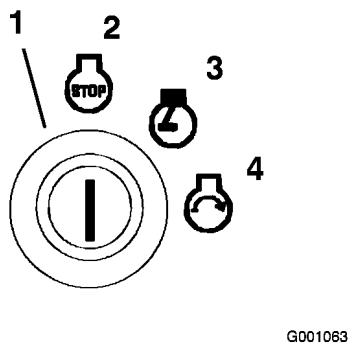

Figure 13
6. Turn the ignition key clockwise to the run position (Figure 13). The glow plug light will turn on.
2. Turn the ignition key clockwise to the **run** position (Figure 13). The glow plug light will turn on.
4. Turn the ignition key to the **off** position (Figure 13). Wait for all moving parts to stop before leaving the operating position.